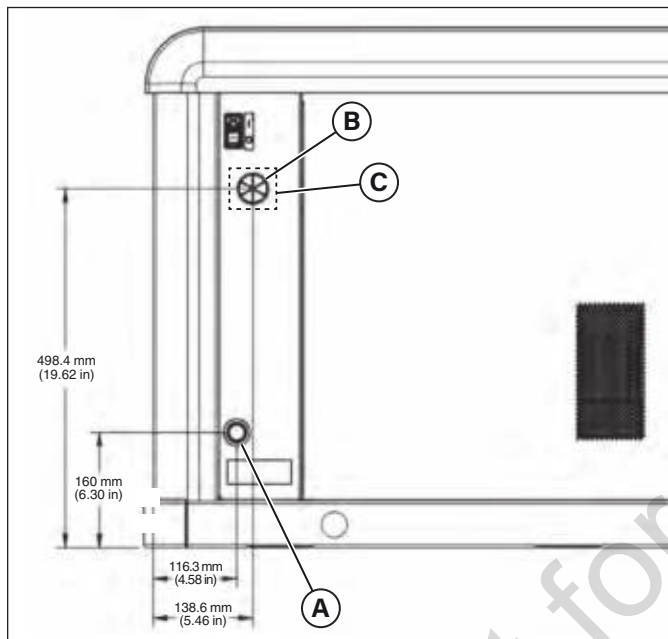

Figure 7
The 3/4-inch N.P.T. fuel inlet connector (A) and electrical inlet locations (B) are shown in Figure 7.